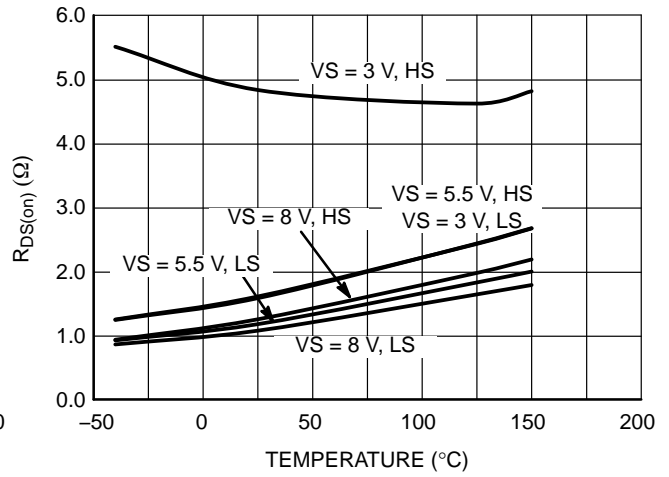

Figure 12. R_{DS(on)} vs. Temperature
8. Refer to Figures 12 and 15 for $R_{DS(on)}$ behavior.